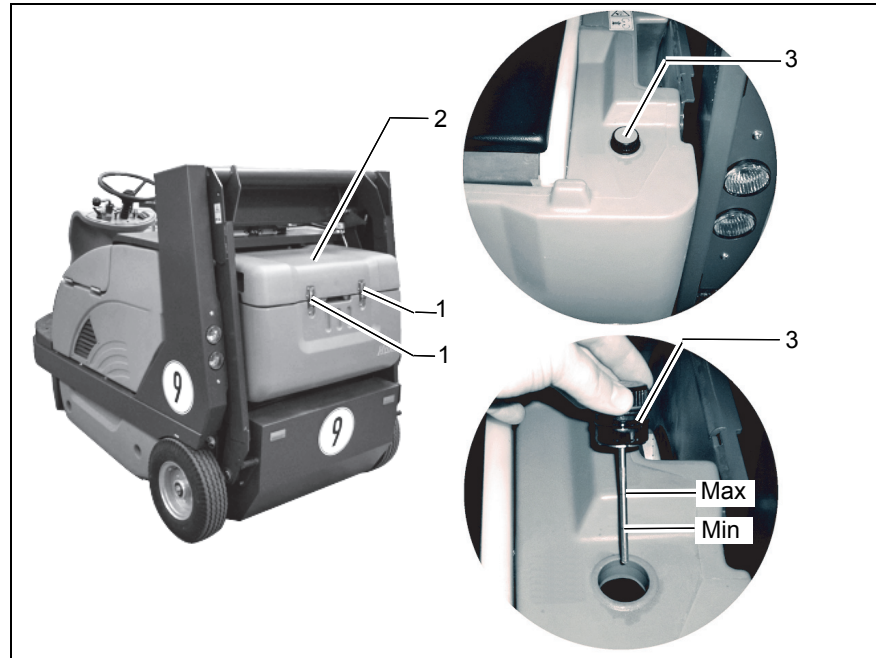

Fig.23
3. Open quick-release locks (Fig. 23/1) and remove cover (Fig. 23/2)
4. Clean the area of the dipstick (Fig. 23/3).
5. Pull dipstick (Fig. 23/3).
8. Pull dipstick (Fig. 23/3) and check the hydraulic fluid level, refill if required.